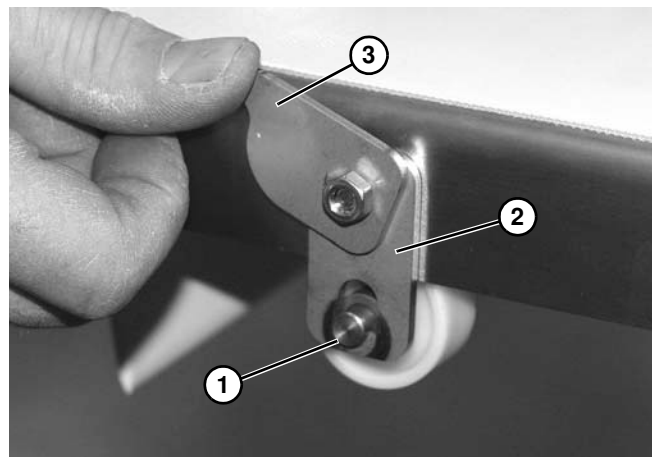

Figure 27
7. Make certain notch (**Figure 27, item 1**) in shaft is inserted into shaft bracket (**Figure 27, item 2**), and lower clip bracket (**Figure 27, item 3**) over shaft and shaft bracket.